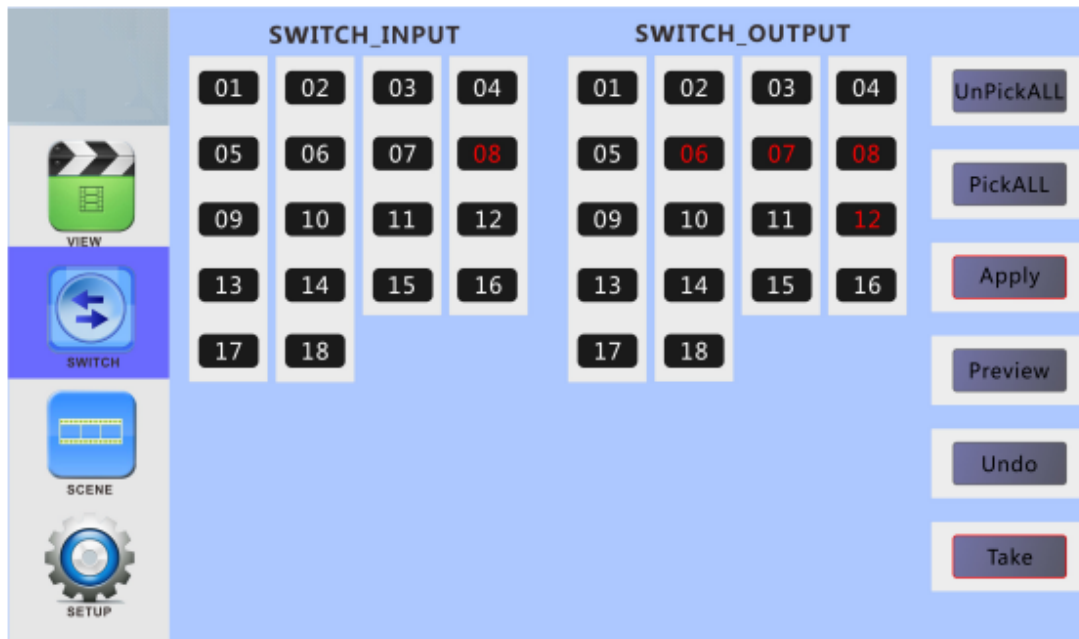

Figure 6.2.2 SWITCH interface
2. **SWITCH** interface: As shown in Figure 6.2.2. this interface mainly to switch video signals, figures below SWITCH-INPUT is the input signal selection area, SWITCH-OUTPUT is digital signal output selection region, the button on right side from top to bottom respectively is UnPickALL (choose all options), PickALL (cancel all options), Apply, Preview, Undo, Take, the specific switching steps are as follows:
First select the input signal, as shown in Figure 6.2.2 select the input signal "08", after selection the number is red, the input can only choose one, the output signal can be
selected more, as shown in Figure 6.2.2 it selected "06, 07, 08, 12" output signal, and then click "Apply ", and then click "Take" to complete the switch. As mentioned above, the "08" input signal can be switched to 08, 06,, 08, 12,, output signal.